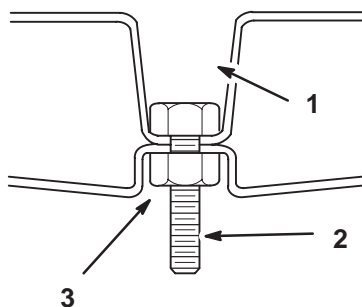

Figure 13
1. Place 4 bolts (5/16 x 1-1/4 in.) into the deep recessed holes in the left and right baffles. Secure the bolts with 4 locknuts (5/16 in.) in the shallow recesses. Refer to Figures 13 and 14 for correct assembly and hole usage.